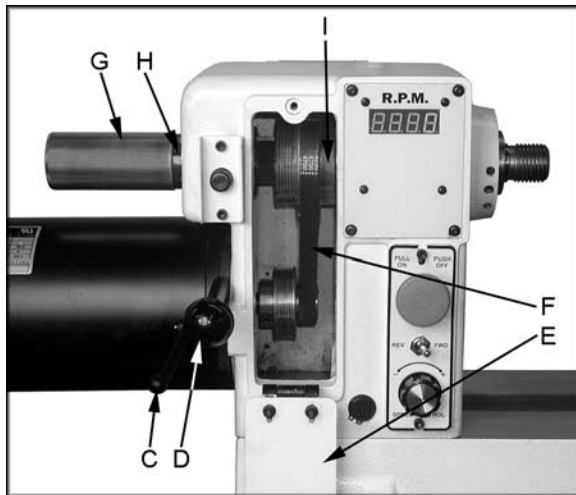

Figure 25
2. Loosen the locking handle (C, Figure 25), and lift up on the tensioning handle (D) to remove tension from the poly v-belt.
3. Open the door (E), and remove the belt (F) from the lower pulley.
4. Loosen the two setscrews in the handwheel (G) and remove.
5. Loosen the socket head cap screw enough to unthread the clamping nut (H).
6. Loosen the two setscrews in the right hand pulley (I).